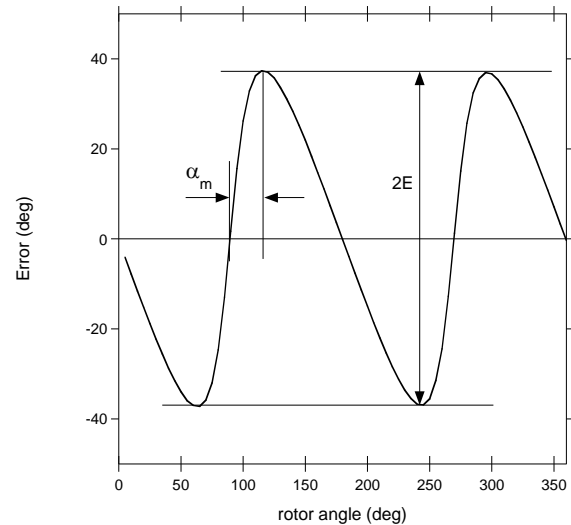

Figure 18: Error Curve in Side-Shaft Configuration with BCT = 0
The ratio k depends on the magnet geometry and distance to the sensor. Having a k ratio different than 1 results in the sensor output response not being linear with respect to the mechanical angle. Note that the error curve has the shape of a double sinewave (see Figure 18). E is the amplitude of this error.
It is possible to deduce the k ratio from the error curve obtained with the default BCT setting (BCT = 0). For this purpose, rotate the magnet over one revolution and record the MagAlpha output. Then plot the error curve (the MagAlpha output minus the real mechanical position) and extract two parameters: the maximum error E and the position of this maximum with respect to a zero crossing a_m (see Figure 18). k can be calculated with Equation (7):